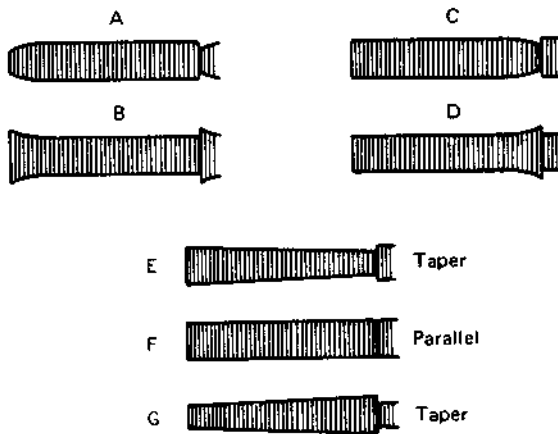

Fig. 2-4-14 Minimum FM waveform
- 1) If the waveform becomes similar to A, B, C or D in Fig. 2-4-14, carefully adjust the supply and take-up guide rollers so that the waveform becomes similar to E, F or G.